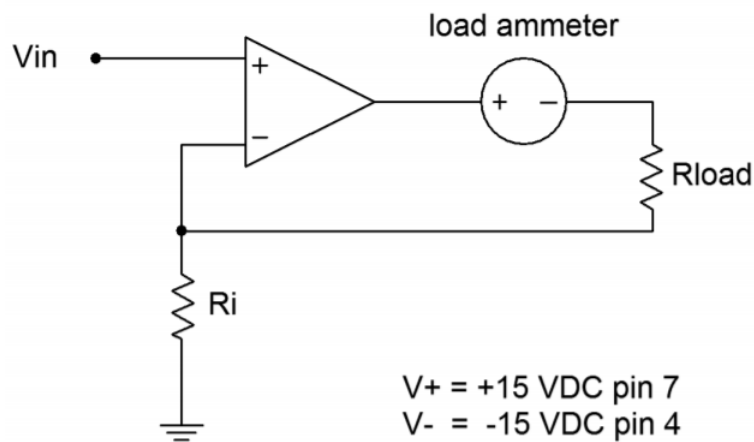

Figure 7.5.1
1. The transconductance of the voltage-to-current transducer can be determined from R_i . Based on the R_i values, calculate the expected I_{load} for the circuit of Figure 7.5.1, and record them in Table 7.7.1.
2. Assemble the circuit of Figure 7.5.1 using $R_i = 1\text{k}\Omega$ and $R_{load} = 100\Omega$.
1. What is the effect as R_i is increased in the circuit of Figure 7.5.1?